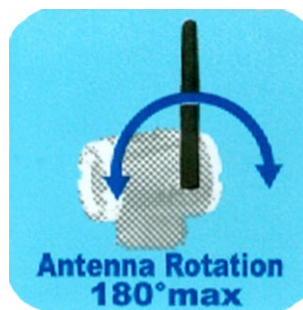

Figure 3.2 –Antenna Safety Rotate
imaginary line 180° in relation to the base of the equipment. If there is a need to rotate the antenna, loosen the lower fixing screw and travel just above this line. See Figure 3.2
To mount the antenna set (20) simply screwing it on the side of the equipment with the aid of a wrench, as shown in Figure 3.2. To mount the radio board (13) first connect it to the main board (6) and then attach to the housing through its screws (14). Connect the antenna cable to the connector on the radio (Figure 3.2). To assemble the battery module (16) simply screwing it to the housing, using its screw (17). To assemble the input board (24) first connect it to the main board (6) and then attach to the housing through its screws (25) and spacers (23). The sensor must be done with the use of the cable gland (to ensure sealing) in the housing (26) and ends with the closing of the thread sensor (27).